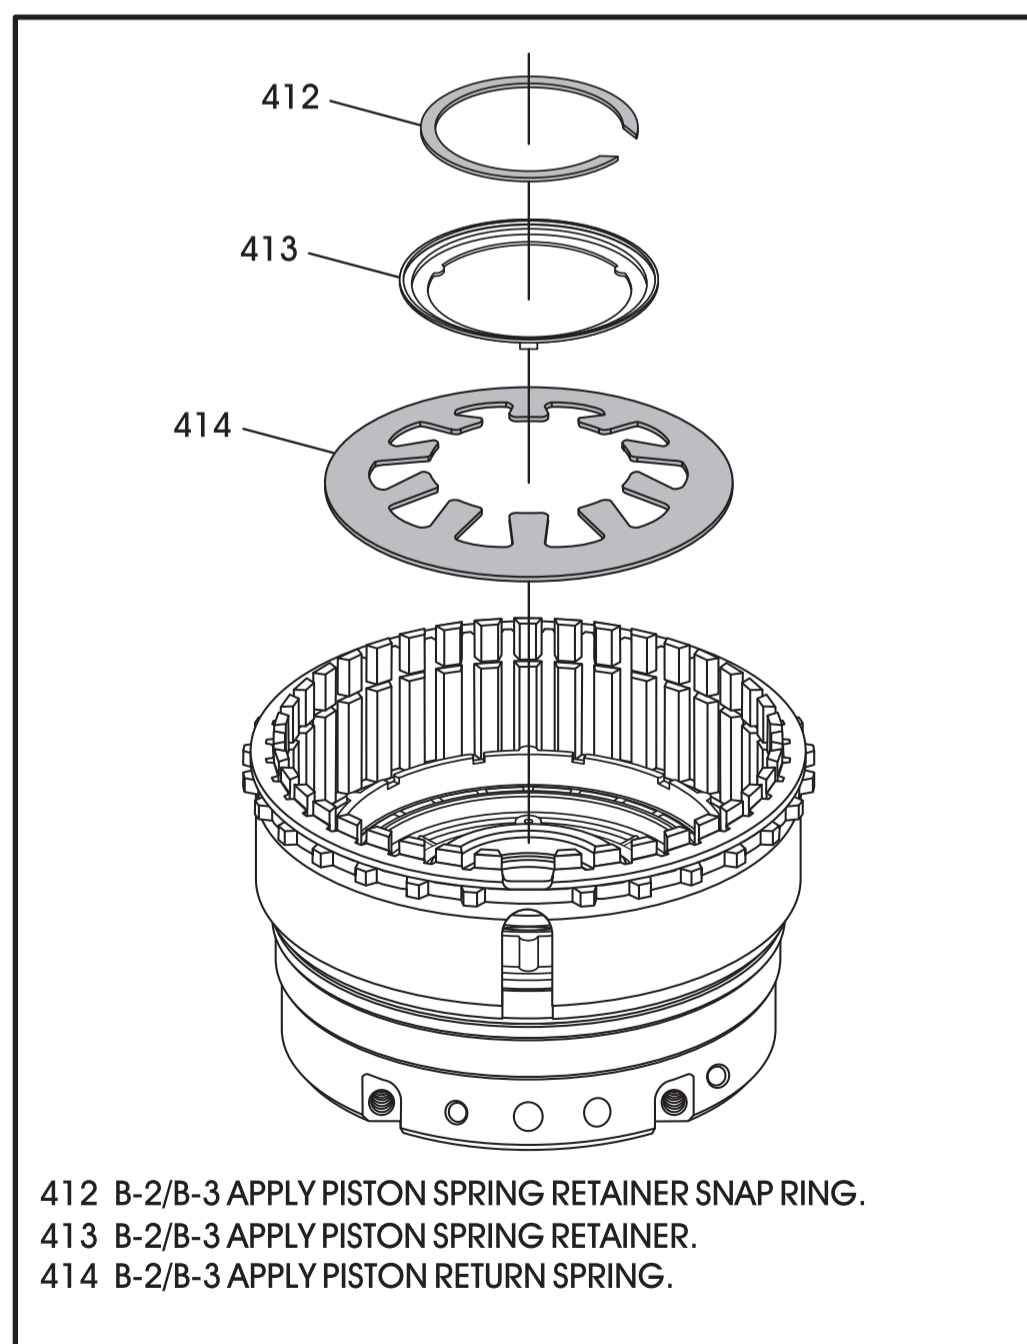

Figure 161
19. Install the B-2/B-3 piston return spring in the direction shown in Figure 161.
20. Install B-2/B-3 piston return spring retainer, as shown in Figure 161.
21. Compress the return spring and retainer and install the snap ring, as shown in Figure 161. Everything done properly, it goes right on.